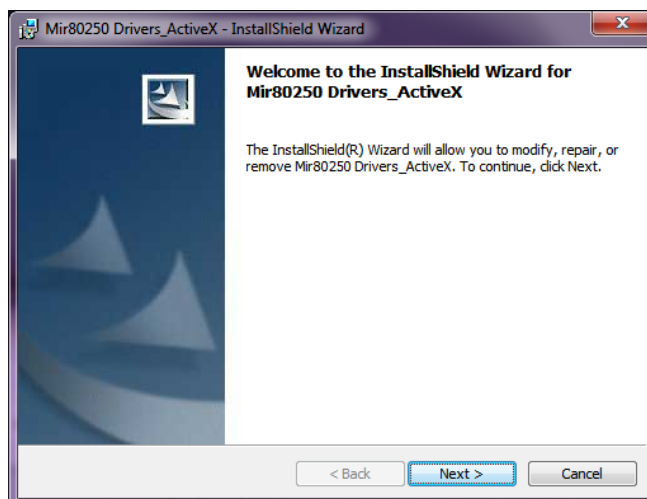

Figure 12: Begin Active X Installation
- Click “Next” to begin the installation process, as shown in Figure 12.